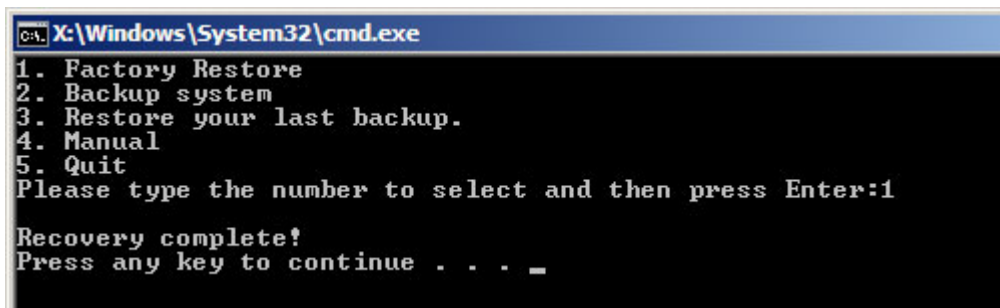

Figure C-25: Recovery Complete Window
Step 11: The screen is shown as in **Figure C-25** when completed. Press any key to reboot the system.
Step 14: The screen is shown as in **Figure C-25** when system backup is completed.
Step 17: The screen is shown as in **Figure C-25** when backup recovery is completed.